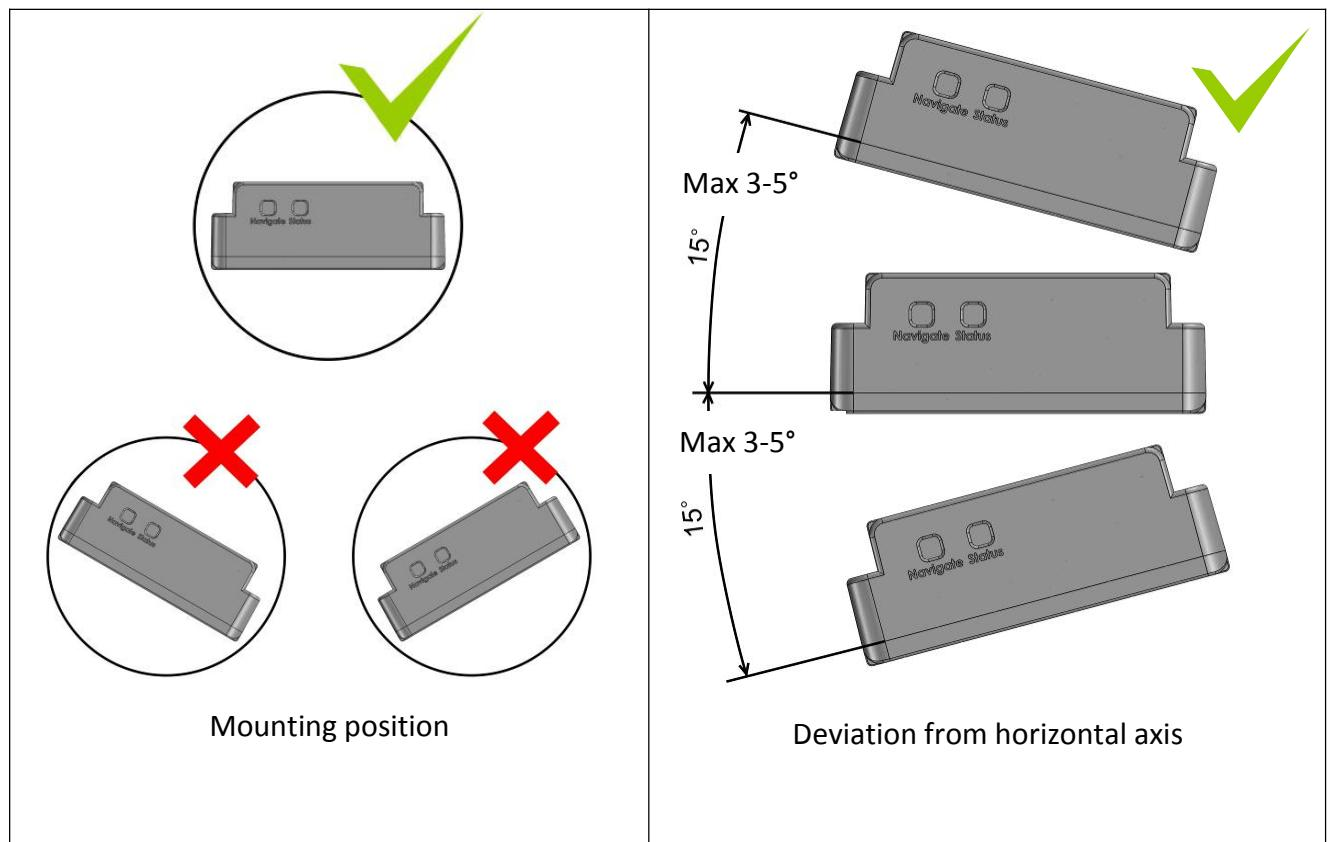

Figure 60. Mounting position and recommended deviation from horizontal axis of vehicle
2. Recommended deviation from horizontal axis of vehicle max 3-5°, as shown in **Figure 60**.
Mounting position and recommended deviation from longitudinal axis of vehicle  $\pm 2^\circ$ , as shown in **Figure 60**.
1. If using Green driving function device should be mounted horizontally to work properly, see **Figure 60**.